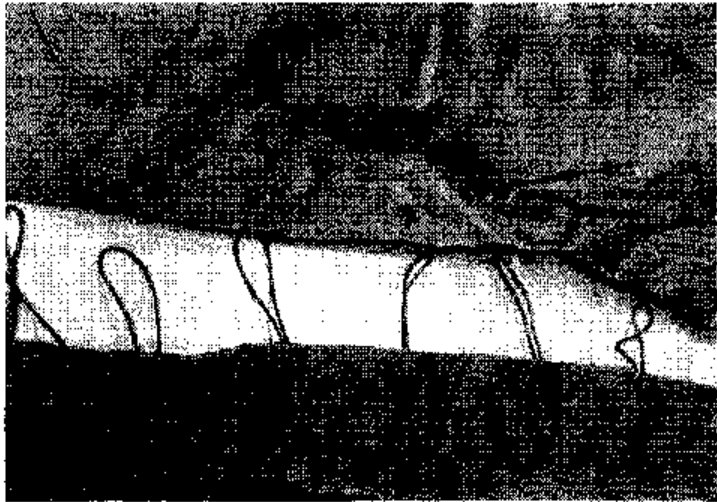

Fig 2 Lacing canvas sections (1)
5 In general, interconnectability between old and new pattern canvas components has been maintained by the continued use of a 'Dutch lacing' interface as shown in Fig 2 to Fig 9. This allows for an old pattern roof and wall section to be used with newer pattern end sections and vice versa.
- 19.7 Refer to Fig 2 through to Fig 9 and 'Dutch Lace' the roof and side sections together in the manner shown.